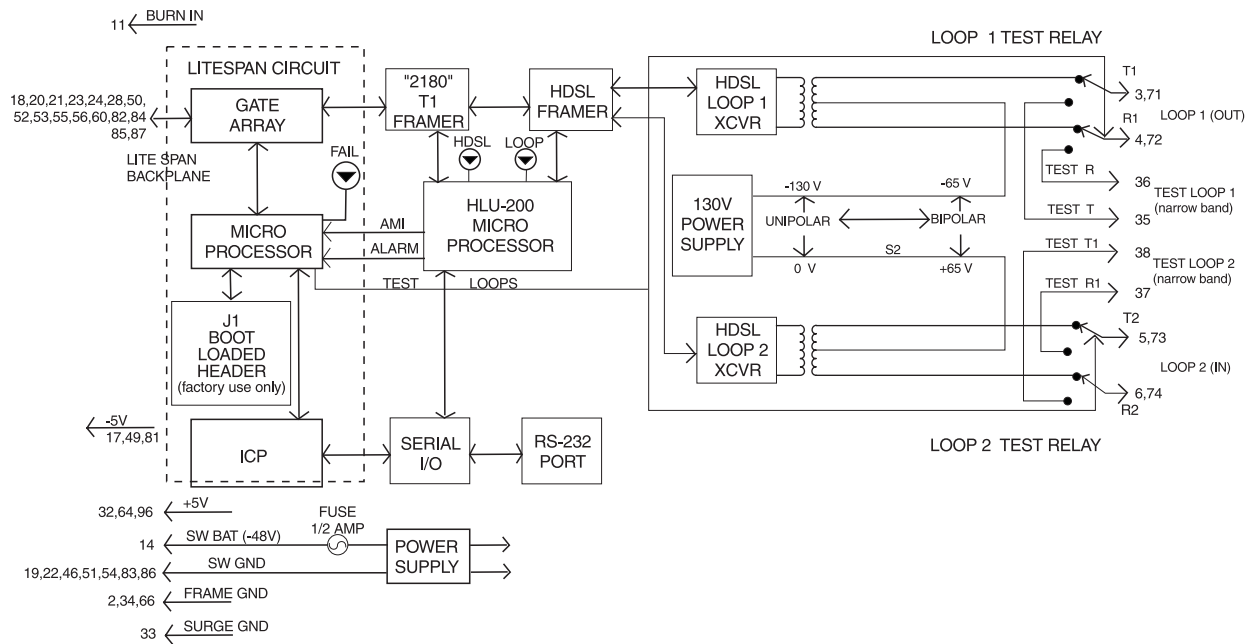

Figure 3. HLU-200 List 2D Block Diagram
A block diagram of the HLU-200 List 2D is shown in Figure 3 on page 6. The Litespan gate array circuit controls the exchange of the 1.544 Mbps data payload between the backplane and the “2180” T1 framer. The 2180 processes the T1 data and reorganizes Super Frame (SF) or Extended Super Frame (ESF) format. It also performs Alternate Mark Inversion (AMI) and Bipolar with 8-zero Bit Substitution (B8ZS) coding and decoding and hands the T1 payload off to the HDSL framer.
The Test Loop feature allows metallic test access to the two facility cable pairs as shown in Figure 3.